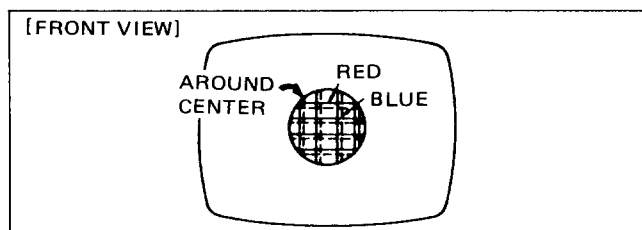

Fig. 2-5
3. To adjust the convergence of red and blue, vary the angle between the tabs. (Fig. 2-5)